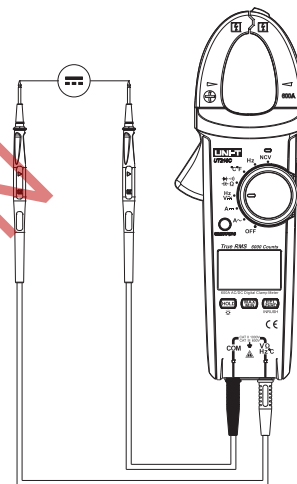

Figure 7
4. DC voltage measurement (See Figure 7)